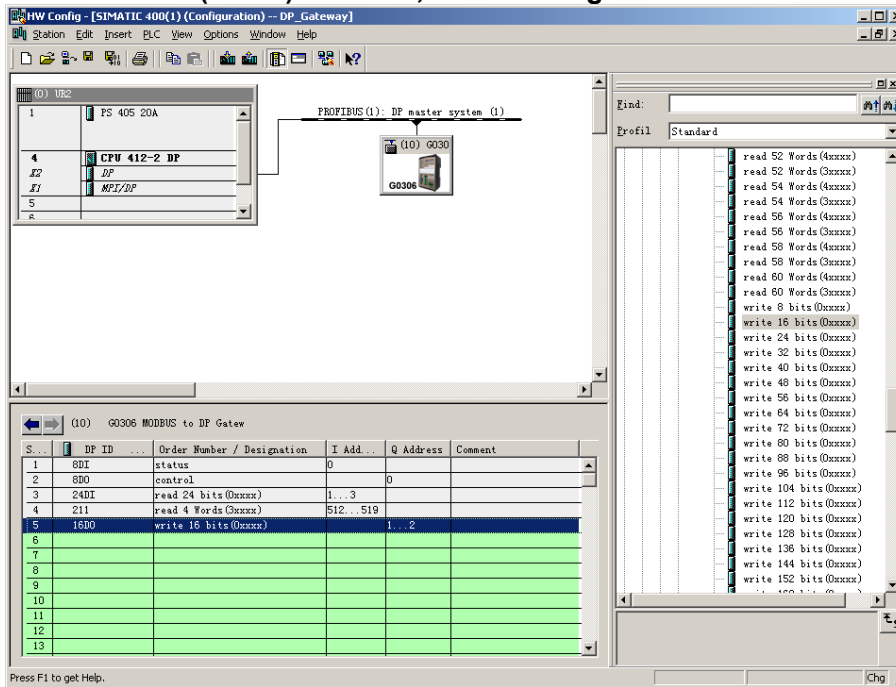

Figure 22 Add “write 16 bits(0xxxx)” Module
a) Add “write 16 bits(0xxxx)” module, shown in Figure22:
"2.Starting Address:" ⇒Type starting address 00021 of coil 0xxxx to be written, set address as 20⇒"OK", shown in Figure 22.